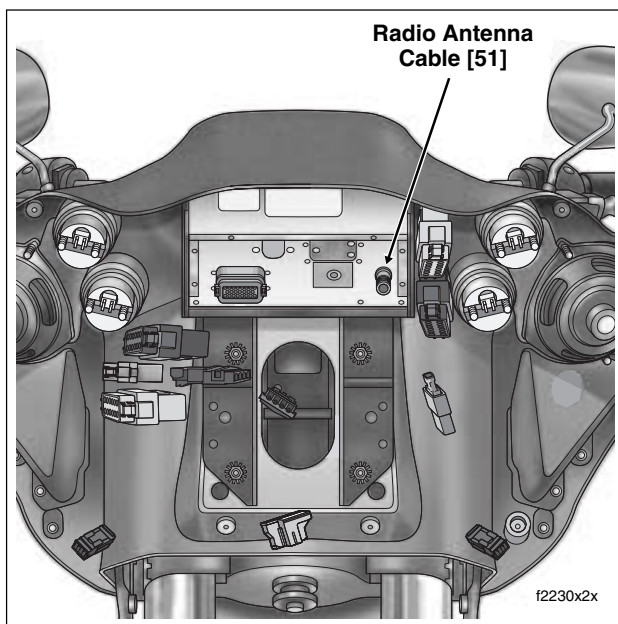

Figure 8-170. Remove Outer Fairing (FLTR)
5. Remove radio antenna cable connector [51] at back of radio (left side). See Figure 8-170. Carefully cut cable where it exits branch of main harness conduit.
5. At front of inner fairing, connect radio antenna cable connector [51] at back of radio (left side). See Figure 8-170.